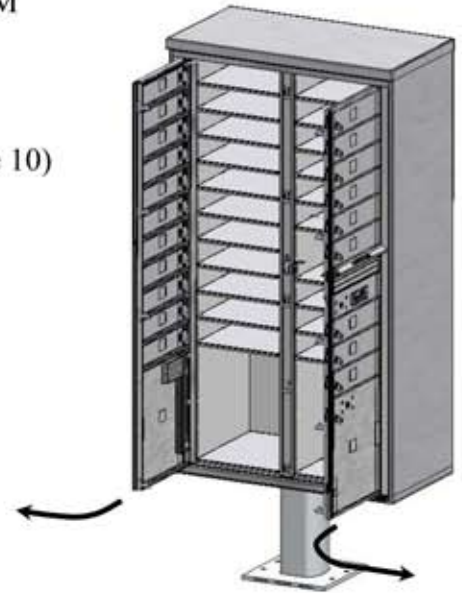

Figure 10 – Open Master Load Doors
Step 1- Open versatile™ 4C master load doors. (See Figure 10)